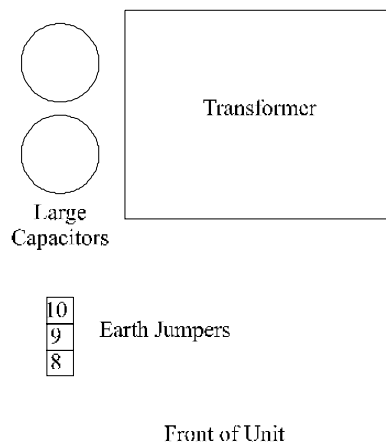

Figure 13 Location of Earth Jumpers
- (1) Switch off and disconnect power before opening unit.
- (2) Remove the 10 screws holding the lid on then remove lid. Do not disconnect earth strap.
- (3) Change the jumper settings as per the diagrams in the following sections. The location of the earth jumpers are shown in Figure 13. Do not operate the unit with the lid removed due to the power voltages accessible within the unit.
- (4) Replace lid and the 10 screws.